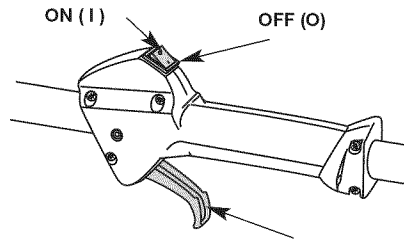

Fig. 10
**NOTE:** There is no need to turn the unit on. The On/Off Control is in the ON (I) position at all times (Fig. 10).
2. Press and hold the On/Off Control in the OFF (O) position until the unit comes to a complete stop. (Fig. 10)
- NOTE:** There is no need to turn the unit on. The On/Off Control is in the ON (I) position at all times (Fig. 10).